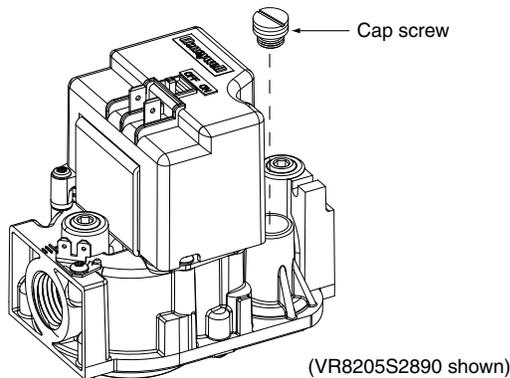
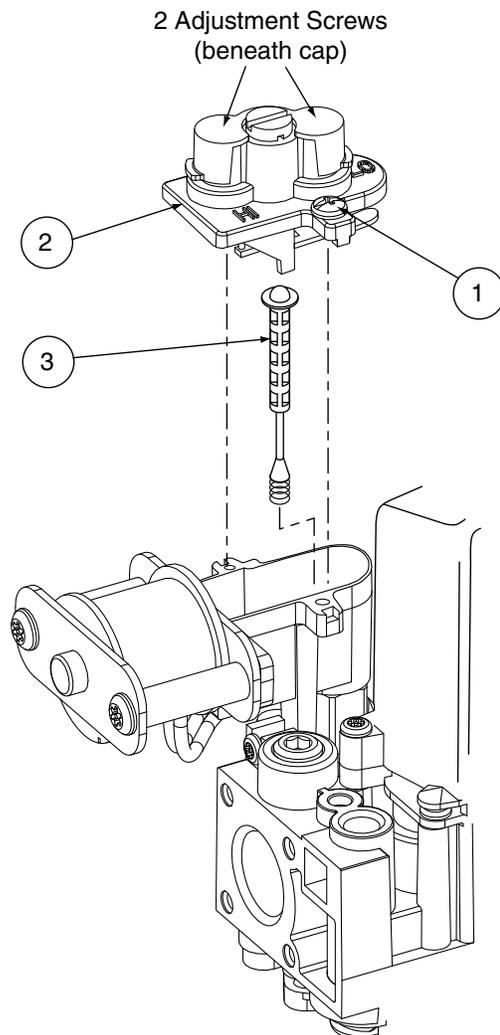
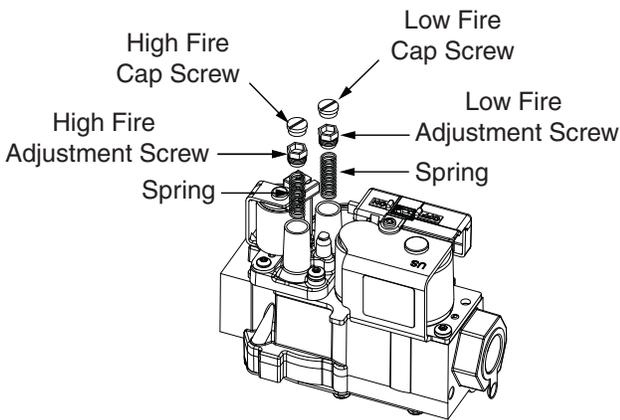

Figure 2. Cap Screw Removal
Figure 4. Spring / Stem Assembly Removal
Figure 5. Pressure Regulator Spring & Adjustment Screw Removal
1. Remove the cap screw from the gas valve as shown in Figure 2.
1. Remove two screws (1) securing the pressure regulator cover assembly (2) to the gas valve. See Figure 4.
2. Remove the pressure regulator cover assembly (2) from the gas valve.
3. Remove and discard the existing stem/spring assembly (3) from the gas valve.
4. Install the replacement stem/spring assembly (3) from the conversion kit.
5. Reinstall the pressure regulator cover assembly (2) onto the gas valve.
6. Install the two screws (1) and tighten.
1. Remove the HIGH fire cap screw. See Figure 5.
1. Single stage gas valve: Remove the cap screw from the top of the gas valve regulator. See Figure 2 (page 4) for VR8205S2890 or VR8215S1206 models.
2-stage gas valve: For VR8205Q2381 models, remove the plastic cap covering the adjustment screws (Figure 4 page 4). For VR9205Q1028 models, remove the cap screw (Figure 5, page 5).
2. Using a screwdriver or allen wrench (where appropriate), slowly turn the adjustment screw till the appropriate manifold pressure listed in Table 2 is achieved. See Figure 2 for VR8205S2890 or VR8215S1206 models. See Figure 4 for VR8205Q2381 models or Figure 5 for VR9205Q1028 models.